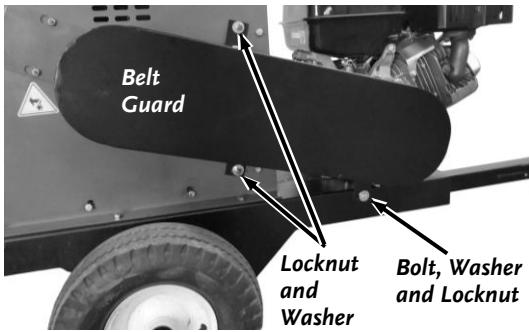

Figure 26
1. Remove the Bolt, Washer and Locknut that attaches the lower area of the Guard to the Frame (**Figure 26**).